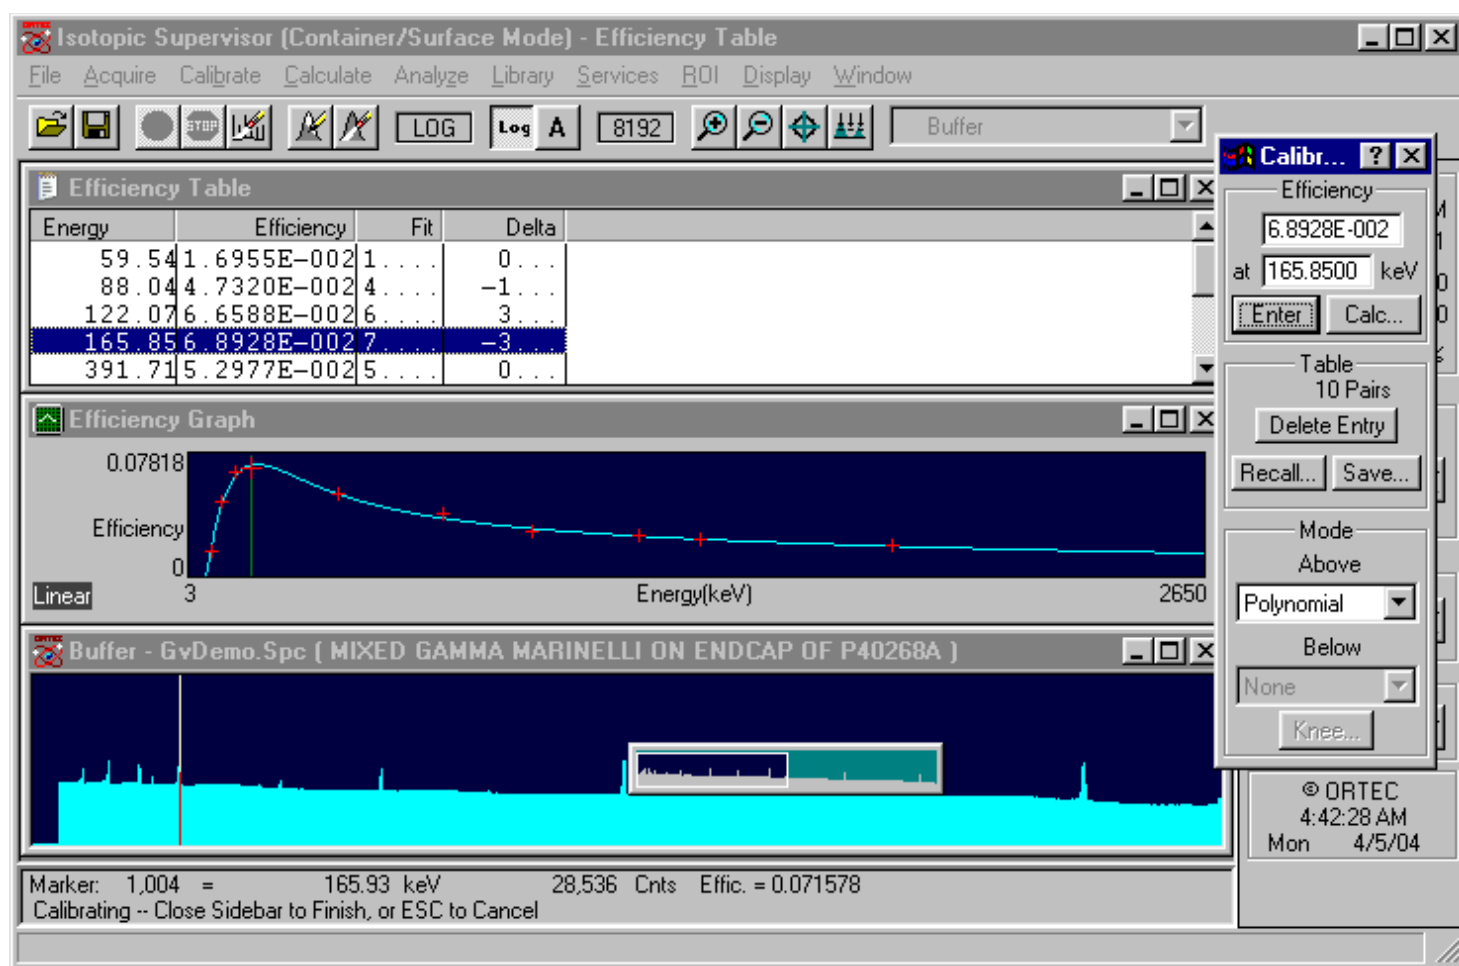
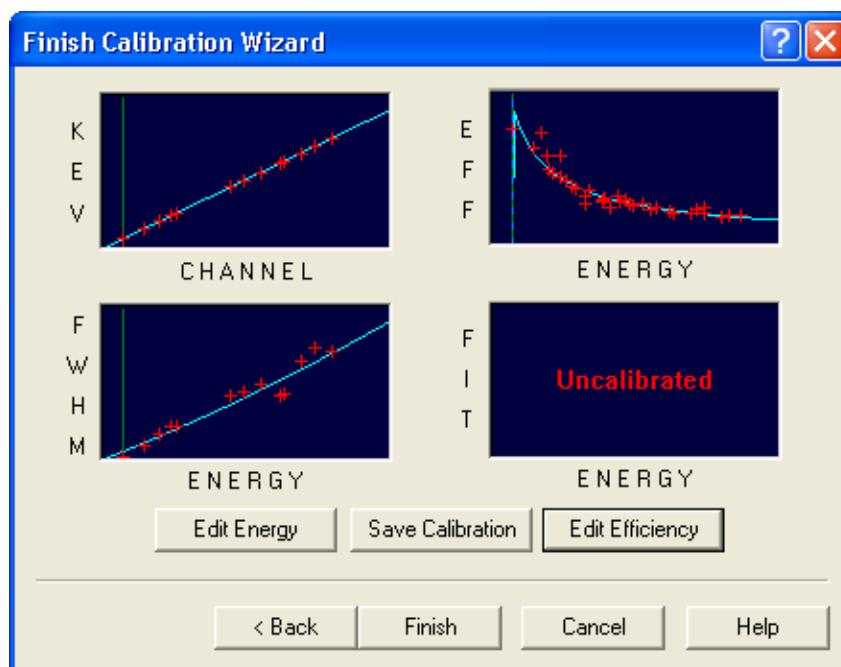

Figure 44. The Efficiency Calibration Sidebar, Table, and Graph.
Figure 49. Review the Calibration Results.
If you entered this dialog from the main Supervisor screen (Step 1 of this procedure), the Finish Calibration Wizard screen (Fig. 49) will be displayed so that you can observe and/or edit the efficiency curve as described in Section 3.3.2.6. Simply click on **Cancel** to close the Calibration Wizard.
4. The Finish Calibration Dialog will open (see Fig. 49 on page 80). Click on the **Edit Efficiency** button. This will open the Efficiency Calibration Sidebar, Efficiency Table, and Efficiency Graph, as shown in Fig. 44.
To edit an energy already present in the Efficiency Table, click in the table to highlight the entry of interest. This will load the current values into the sidebar (see Fig. 44). Edit the efficiency and peak-energy values as needed, then click on **Enter** to update the fit and table, and save the edited file.
When spectrum collection is complete (or the buffer is used), the efficiency calibration will be performed. If successful, the wizard will go to the Finish Calibration Wizard screen (Fig. 49), where you will have the opportunity to review and, if necessary, edit the resulting energy calibration by clicking on the **Edit Efficiency** button (see Section 3.3.2.2).
The final screen in the calibration wizard is the review screen shown in Fig. 49. This shows the plots of the results of all the calibration steps. (Ignore the TCC fit view in the lower right corner.) To review and/or edit the energy or FWHM calibration, click on **Edit Energy** (Section 3.3.2.5). To review or edit the efficiency calibration, select **Edit Efficiency** (Section 3.3.2.6).
From the Finish Calibration Wizard screen, click on the **Edit Efficiency** button. This will open the Efficiency Calibration Sidebar, Efficiency Table, and Efficiency Graph. Expand the spectrum horizontally to show the peaks completely (Fig. 44).